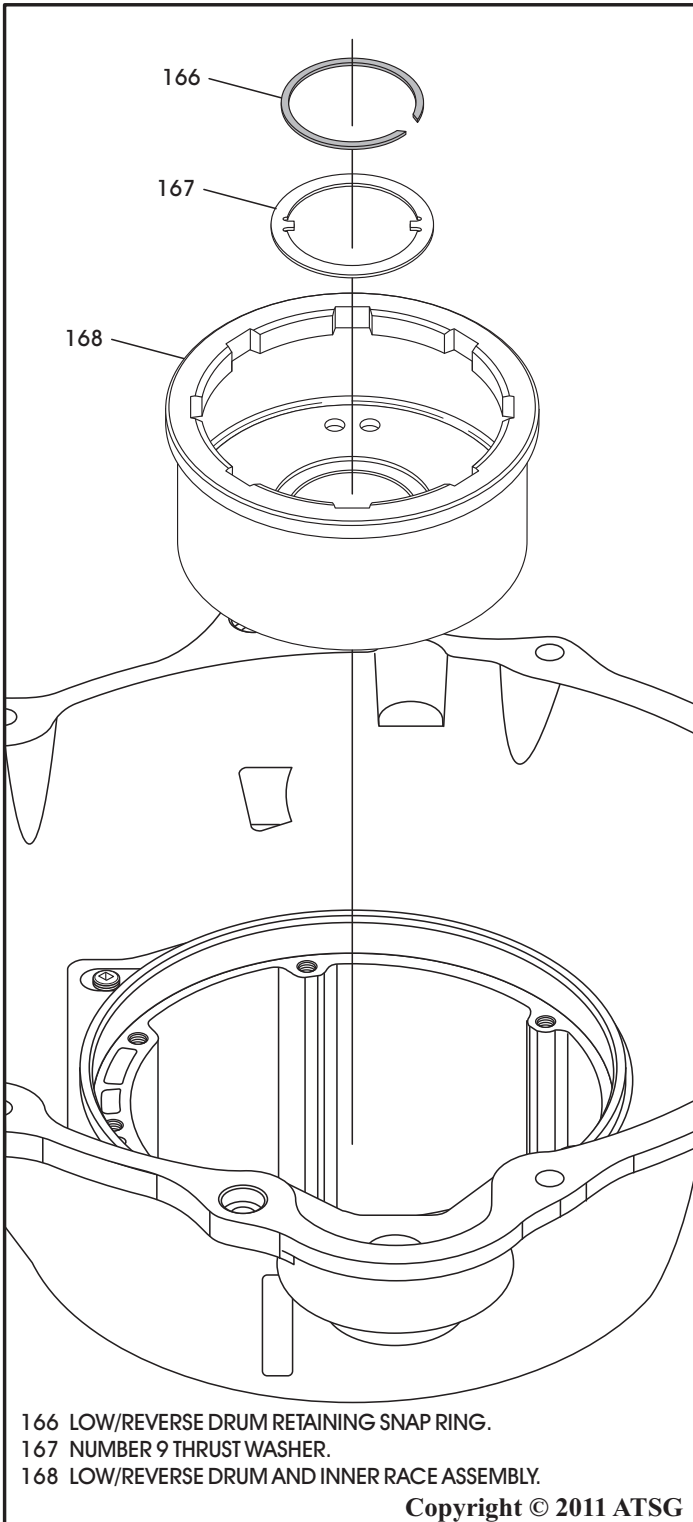

Figure 82
46. Remove snap ring retaining the low/reverse drum and low roller clutch inner race assembly, as shown in Figure 82.
47. Remove number 9 thrust washer and low/reverse drum with low roller clutch inner race from case, as shown in Figure 82.